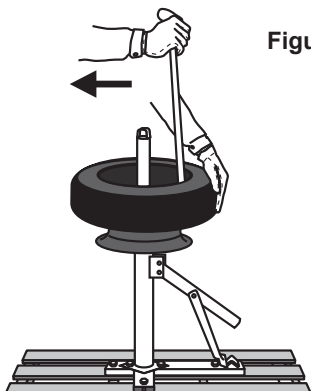

Figure 12
- Once bead on outer side of tire is separated from rim, pull tire up with free hand and push Bar down so it is against bead on inner rim. See Figure 12, below.